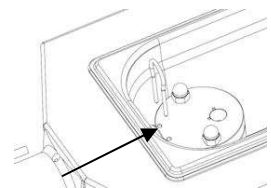

fig. 26
- Slide the whipping assembly into the housing, turning lightly. Turn and move the whipping pipe back and forth until the locking device can be inserted all the way. (fig. 26)